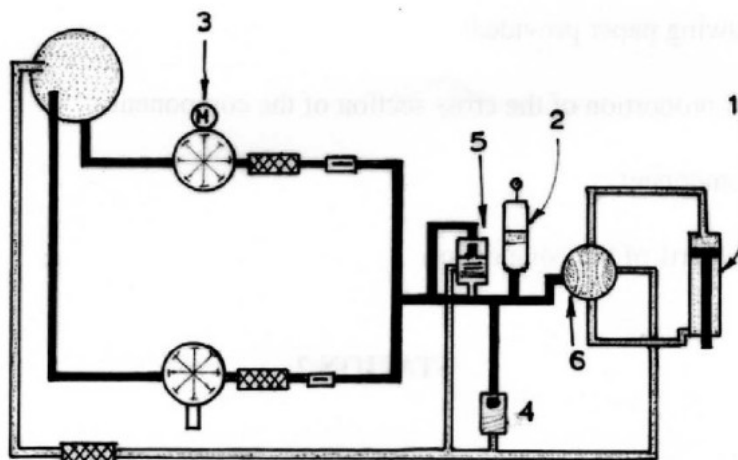

Figure 2
- (b) **Figure 2** shows a basic hydraulic system. Identify the components labelled 1 to 6.
Using the template, tools, and materials provided, make the aircraft ram air scoop shown in figure 2. (10 marks)